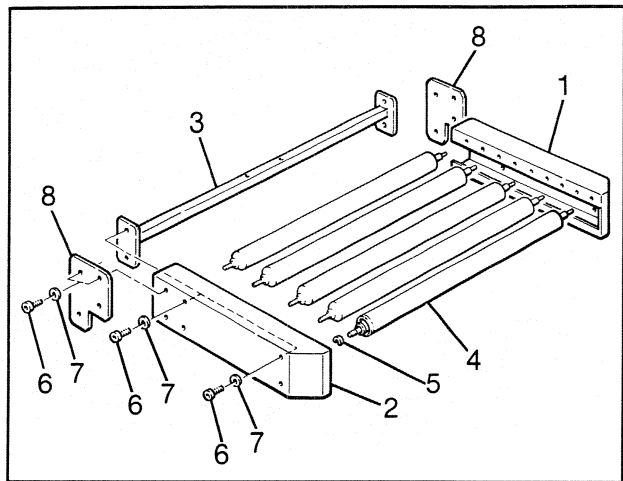

Figure 2 – Parts Illustration
1. Refer to Parts Illustration Figure 2 to find part needed and reference number.